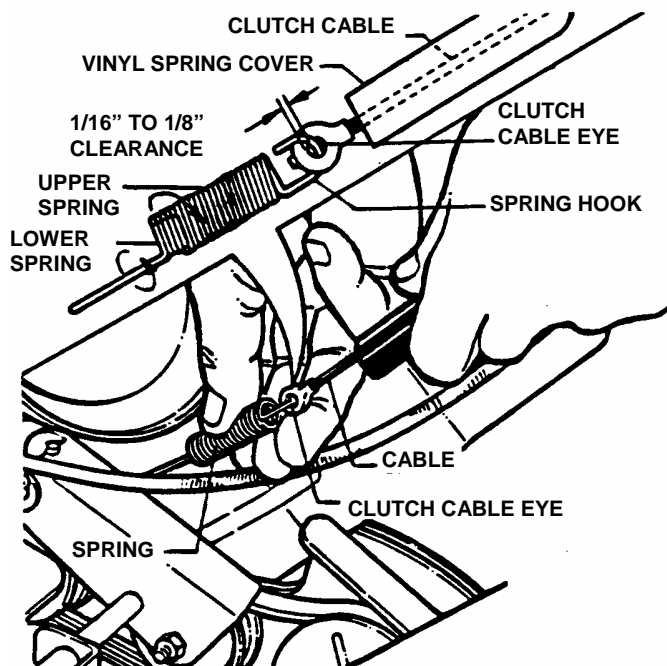

FIGURE 4.5
1. The wheel drive control is properly adjusted when there is 1/16" to 1/8" clearance between the inside of the spring hook and the inside of the clutch cable eye with the wheel drive control released. See Figure 4.5.